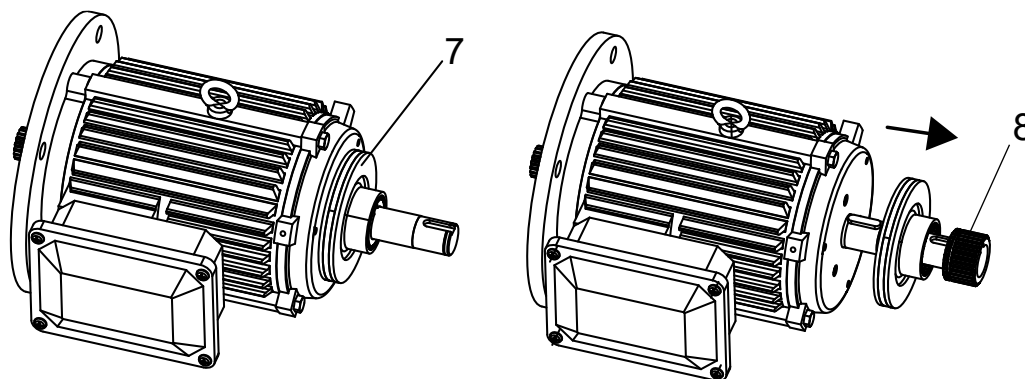

Fig. 6-24c
- See Fig. 6-24c, Remove the Retainer ring⑦, pull out of the brake disk and the splinted sleeve⑧